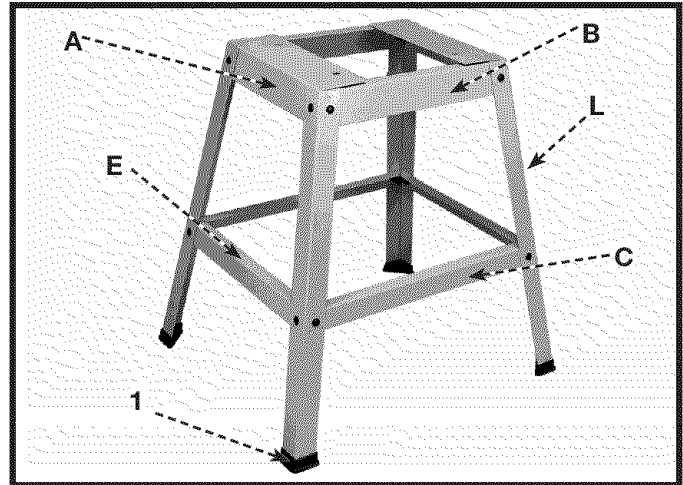

Fig. 4
1. Assemble stand as shown in Fig. 4, using parts shown in Fig. 3. The brackets and legs are identified with the same letter in both illustrations. Insert the M8 x 16mm carriage head screws through the legs and the brackets then place the 3/8" flat washers followed by M8 lock washers on the screws and secure with the M8 hex nuts. Only tighten nuts finger-tight at this time. **NOTE:** The top lips of top brackets (A) must fit on top of the front and back brackets (B).
2. Attach the four plastic feet (1) Fig. 4 to the bottom of each leg (L).